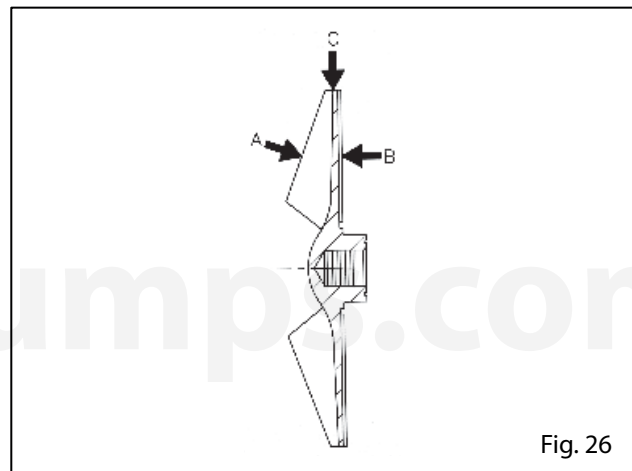

Fig. 26
- Y You should inspect the impeller vanes checking if they are damaged, must be replaced if the slots are greater than 1/16" deep or if they have a uniform wear over 1/32" (Point A in Figure 26).
- Y Inspect the rear vanes, if they have more wear than 1/32" (Point B in Figure 26), replace the impeller.
- Y Inspect the leading and trailing edges of the blades, if these presents corrosion or wear (Point C in Figure 26), substitute for a new impeller.
- You should inspect the impeller vanes, checking if they are damaged, should be replaced if the grooves are larger than 1/16" in depth or having a uniform wear greater than 1/32" (Point A in Figure 26).
- Inspect the rear blades, if they have wear greater than 1/32" (Point B in Figure 26), replace the impeller.
- Inspect the leading and trailing edges of the blades, if they present corrosion wear or pitting (point C in Figure 26), replace it with a new impeller.